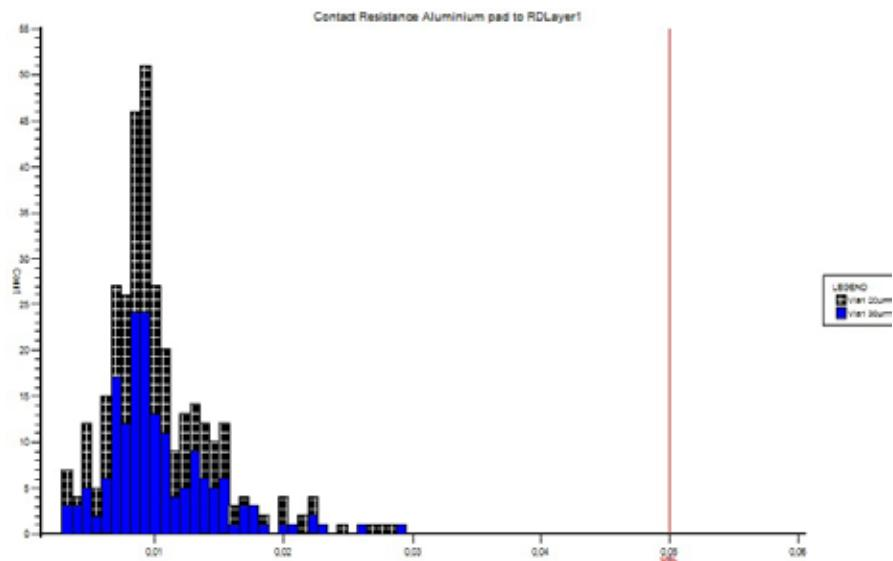
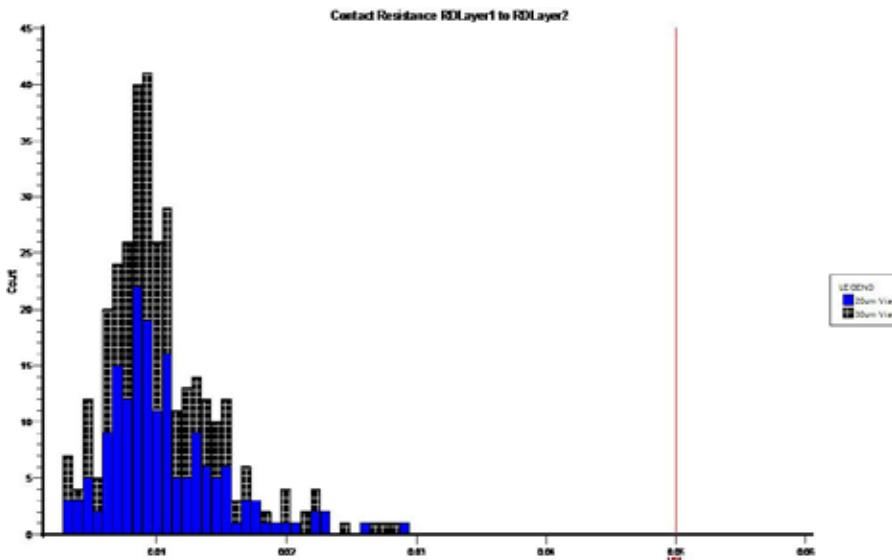

Figure 8a: Contact resistance results for a) Via 1 Al to RDL1.
Figure 8b: Contact resistance results for b) Via 2 RDL1 to RDL2.
a) Via 1 Al (chip pad) to RDL1: The contact resistance of a 20 μ m via and of a 30 μ m via was measured (shown in **Figure 8a**); and b) Via 2 RDL1 to RDL2 (copper to copper) (shown in **Figure 8b**). The contact resistance of a 20 μ m via and of a 30 μ m via was measured; a small amount of dispersion was observed within the wafers. All values are well within our internal specification.